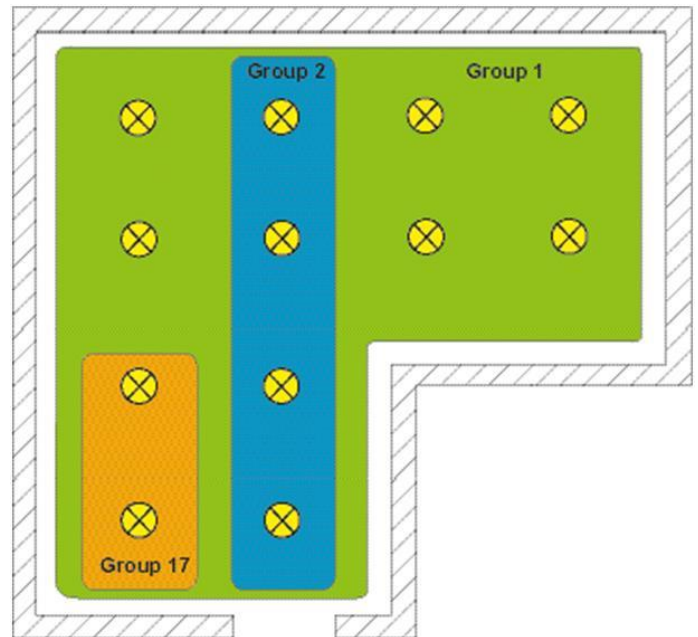

Figure 15: Example of multiple assignment of operating devices - Here: Group 1 overlaps with Group 2 and Group 17
- i DALI operating devices assigned to multiple groups always set themselves to the most recent status set using one of the assigned groups. In this case, feedback of the switching status, brightness value or colour temperature of a group cannot always be clear. The following examples explain this behaviour (Figure 15):